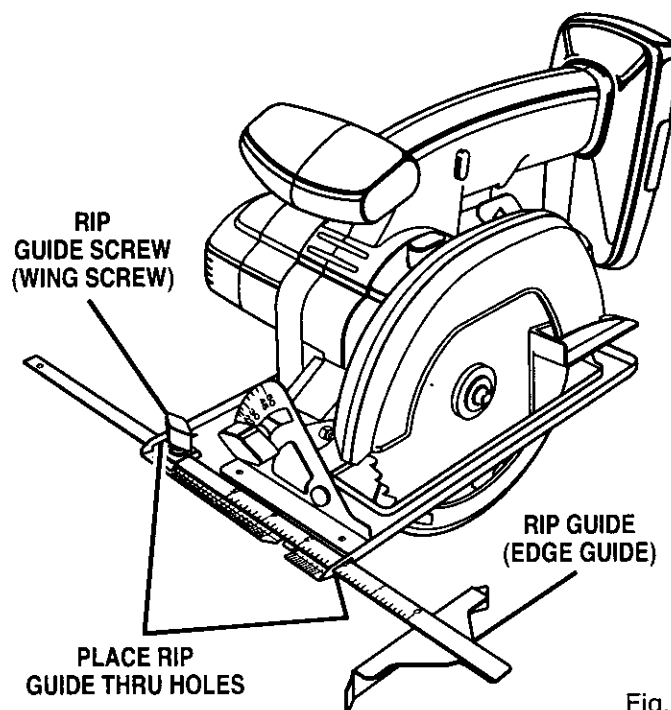

Fig. 21
- Place rip guide through holes in saw base as shown in figure 21.